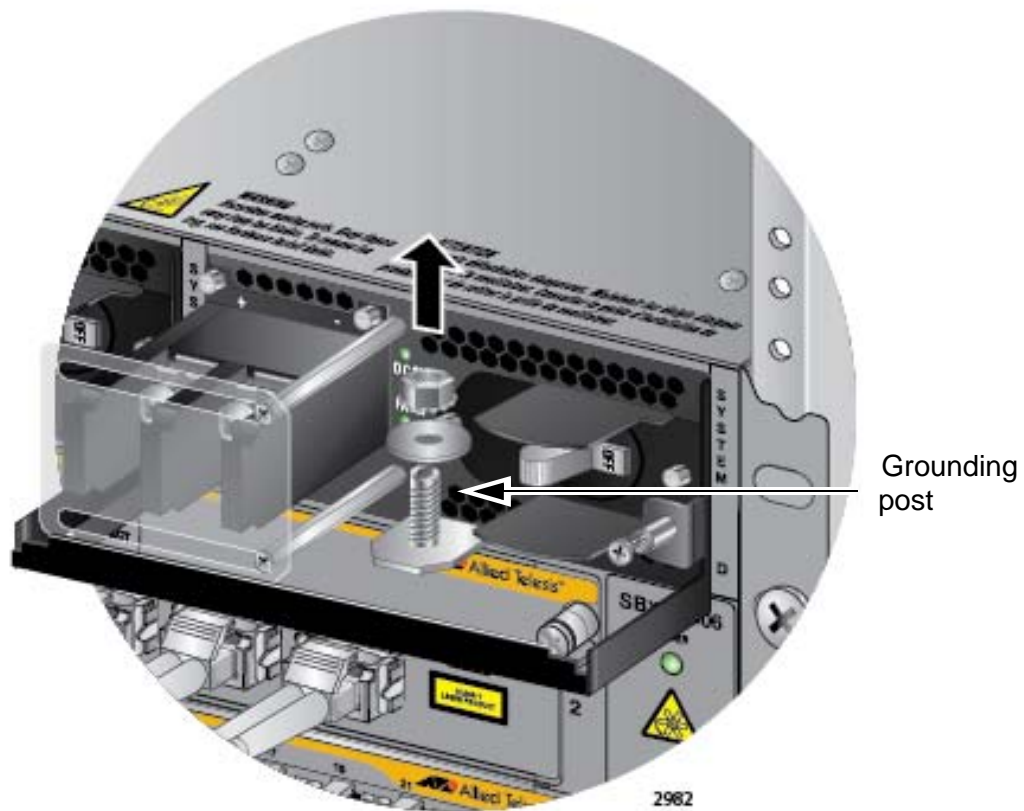

Figure 117. Removing the Nut and Washer from the Grounding Post
3. Use an 8 mm wrench to remove the grounding post nut and washer, shown in Figure 117, from the power supply.
2. Use an 8 mm wrench to remove the grounding post nut and washer, shown in Figure 117 on page 186, from the grounding post on the power supply.